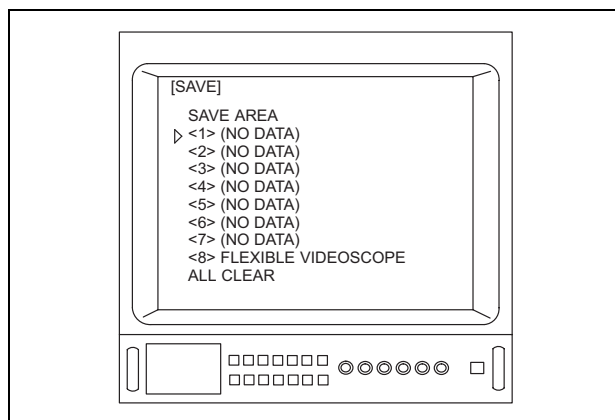

Figure 5.72
6. Depress the menu switches “◀” or “▶”, or the “↑/↓/←/→” key on the keyboard to move the arrow “▷” to the number that you would like to enter (for example, “<1>”) (see Figure 5.72).
- Depending upon the OTV-S7V's settings, the menus shown in Figures 5.72, 5.73, 5.74, 5.75 and/or 5.76 may appear different from those displayed on the video monitor.